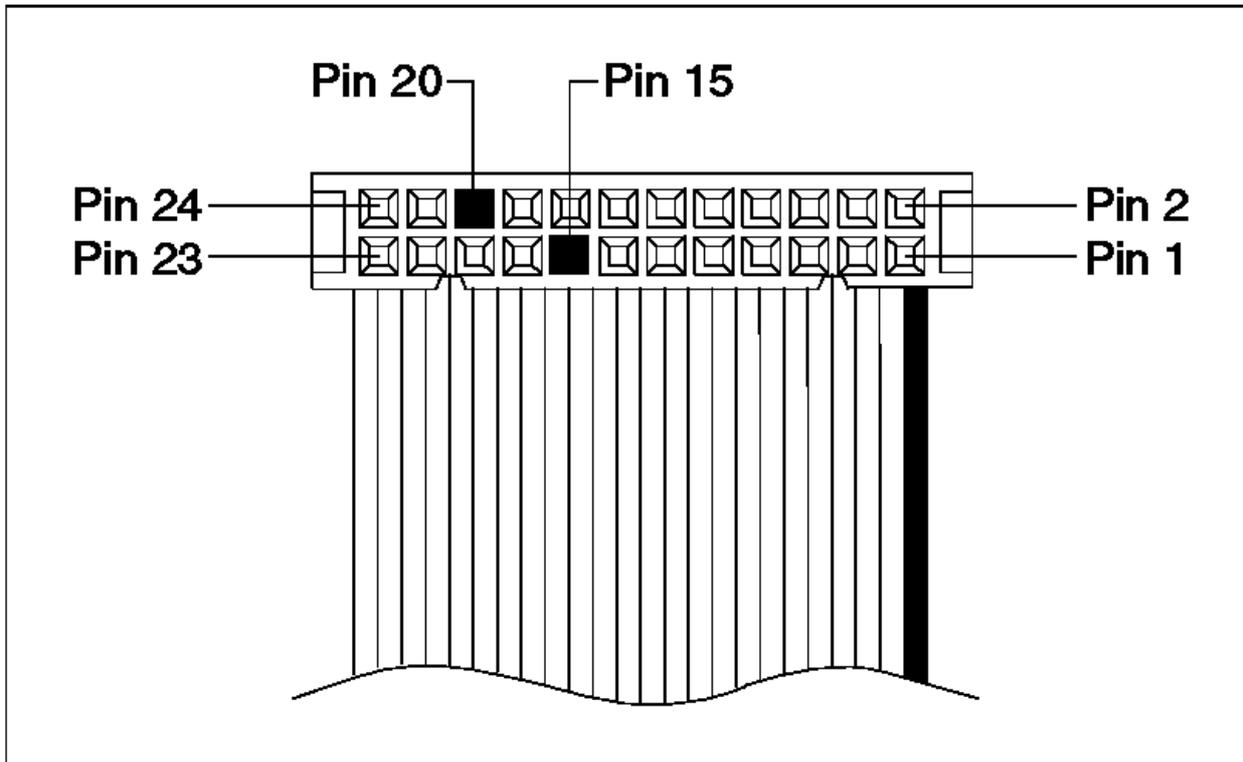

Figure 6-32. Extension Card Cable Connector
- Disconnect the extension card cable from J2 on the printer card. See Figure 6-38 in topic 6.36 for the locations of the printer card connections. See Figure 6-32 for the locations of the cable connector pins.